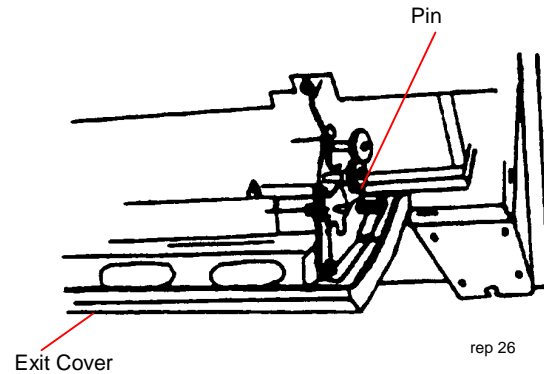

Figure 2. Removing the Exit Cover
4. (Figure 2): Push in the spring-loaded pins on the sides and remove the Exit Cover.